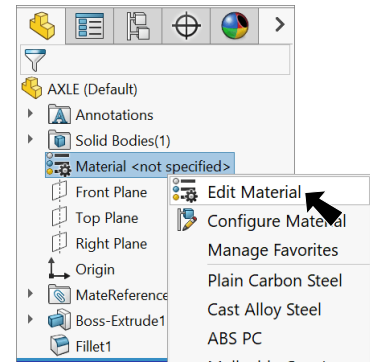

Fig. 10
Step 1. Right click Material  in the Feature Manager and click **Edit Material**, Fig. 10.